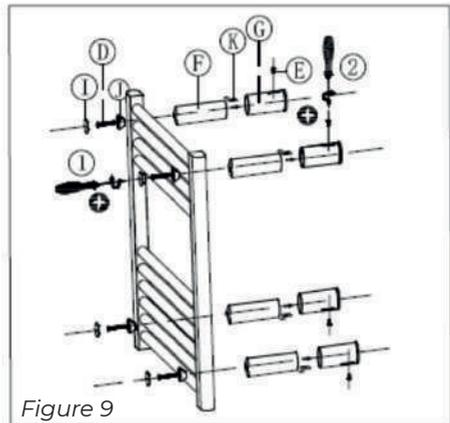

Figure 9
8. Slide the square nuts into the designated slots of the inner wall brackets (Figure 9, pos. K).
9. Attach the four inner wall brackets (Figure 9, pos. F) to the outer wall brackets with small screws (Figure 9, pos. J) using a Phillips screwdriver.
11. Screw and tighten the device with four large screws (Figure 9, pos. D) to the wall bracket (Figure 9, pos. J) using a Phillips screwdriver (Figure 9, pos. I).
12. Place the four sealing caps (Figure 9, pos. I).